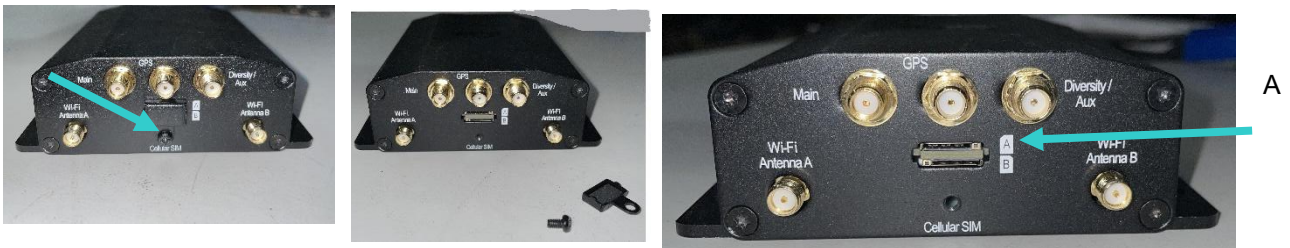

Figure 36 - Removing screw and small slot cover to expose SIM card slots A and B
3. Remove the screw from the face of cellular modem as indicated in Figures 36 and then remove slot cover to expose modem's expansion slots.